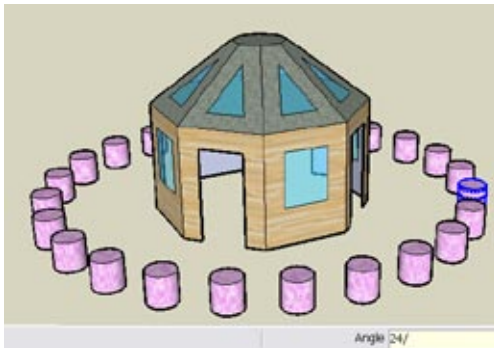

Figure 1-65
5. To get more planters, enter 24/ (Figure 1-65).